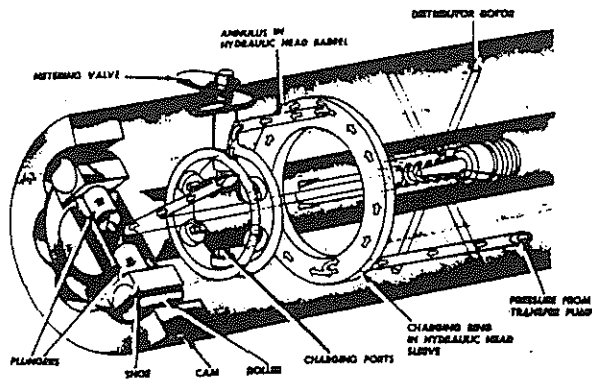
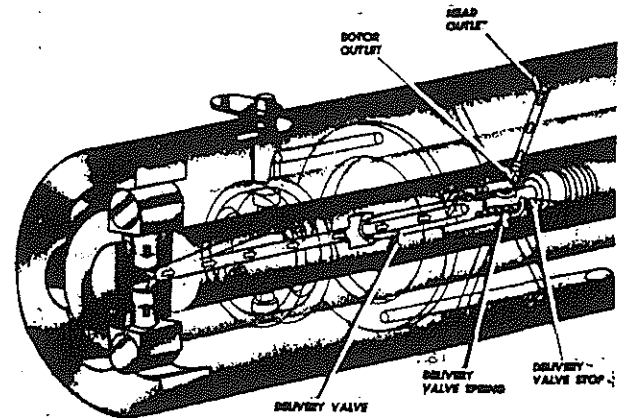

FIG. 3 (Charging)
FIG. 4 (Discharging)
- a. If the fuel tank is located above the fuel filters, loosen the vent plug (Figure 3) on top of the filter head and open the fuel tank shutoff valve. Fuel, flowing by gravity, will force the air out of the filters. When the flow of fuel from around the vent plug is free of air bubbles, tighten the vent plug securely.
Figs. 3 and 4 show the porting relationships during the charging and discharging cycles.
CHARGING CYCLE - As the rotor revolves, Fig. 3, the angled passage in the rotor registers with one of the charging ports in the charging ring. Fuel, at transfer pump pressure, then passes into the pumping cylinder, forcing the plungers apart a distance proportionate to the amount of fuel required for injection on the following stroke. Only at full load will the plungers move to the most outward position, controlled by the leaf spring setting (maximum fuel adjustment).
Note in Fig. 3 that while the angled passage in the rotor is in registry with one of the charging ports in the hydraulic head, the rotor outlet is out of registry with the head outlet. Note also that the rollers are between the cam lobes. Compare their relative position in Fig. 3 with that of Fig. 4.
DISCHARGE CYCLE - As the rotor continues to revolve Fig. 4, the angled passage passes out of registry with the charging port. For a brief interval the fuel is trapped until the rotor outlet registers with one of the head outlets. As this registration takes place both rollers contact the rise of the cam lobes and are forced together, Fig. 4. This is the discharge or injection stroke. The fuel trapped between the plungers is forced through the axial passage, through the delivery valve and out the rotor outlet.